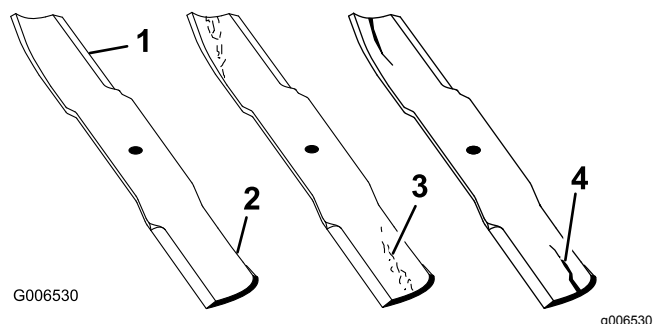

Figure 48
1. Inspect the cutting edges (Figure 48). If the edges are not sharp or have nicks, remove and sharpen the blades; refer to Sharpening the Blades.
2. Inspect the blades, especially the curved area (Figure 48). If you notice any damage, wear, or a slot forming in this area (items 3 and 4 in Figure 48), immediately install a new blade.